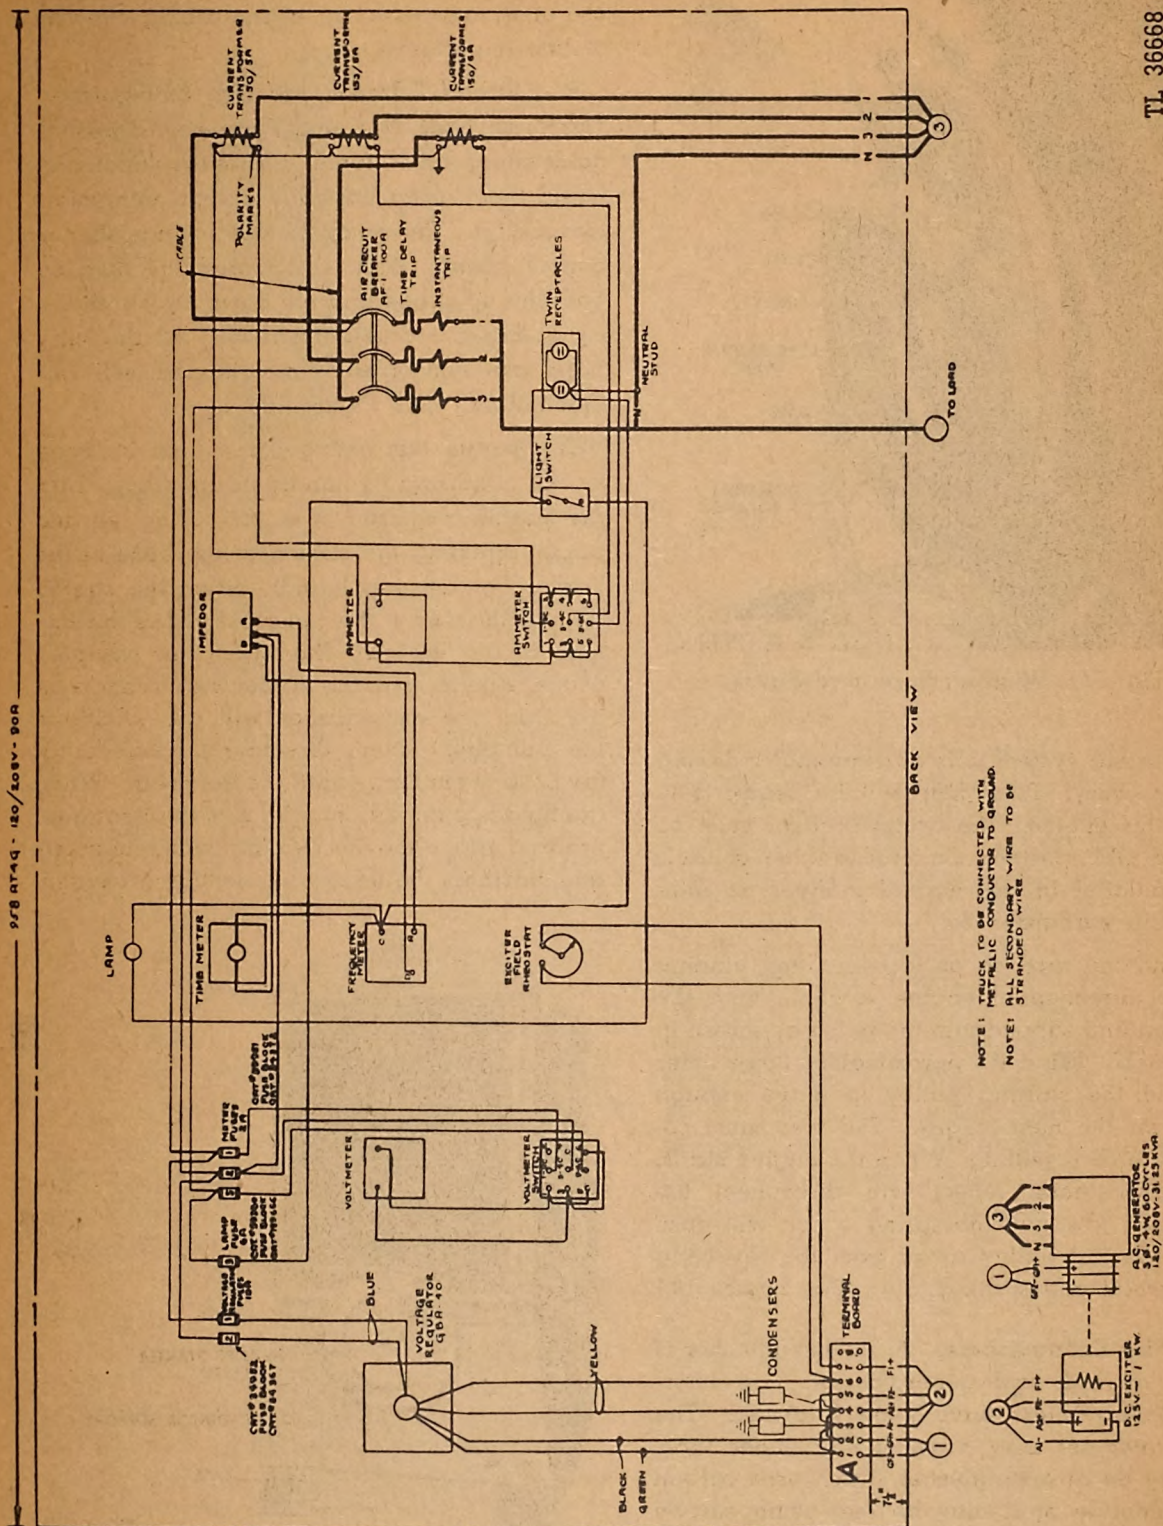

Fig. 16. Wiring Diagram Control Panel PE-185-B
j. *Wiring Diagram.* A wiring diagram for PE-185-B Power Unit is shown in Figure 16.